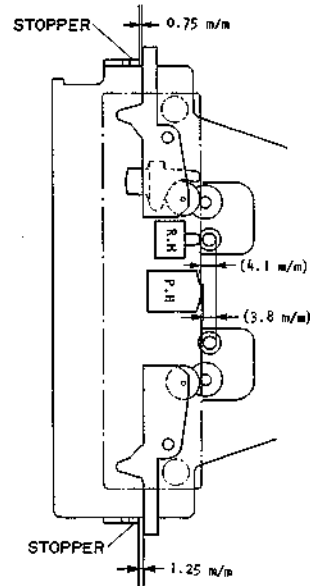

Fig. 5.17 Pressure Roller Adjustment
- (1) Check to insure whether any of the heads is not in contact with the cassette housing.
- (2) Check to insure whether the pressure roller is located in parallel with the capstan shaft (Also check to insure whether the heads are free from dust or dirt, and whether the pressure roller arm is free from bending).
- (3) Check to insure whether the surface of the pressure roller is globular, not straight. Other than the above, concaved, or oiled surface shall be subject to replacement.
- (4) The pressure of the pressure roller shall be  $400 \text{ g} \pm 50 \text{ g}$ .
- (5) Adjustment of Pressure Roller Timing.
- a. Refer to Fig. 5.17.